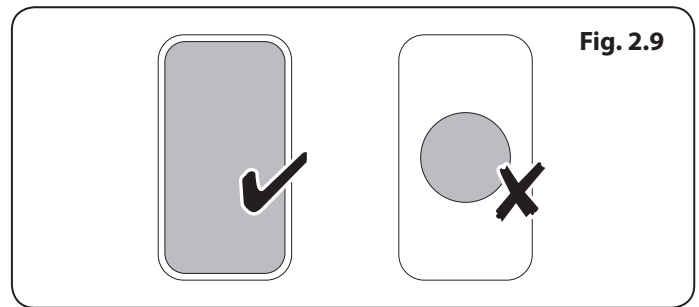

Fig. 2.9
**Note:** The griddle should comprise of an induction friendly, flat bottom, large enough to cover zones A and B of the hotplate heating area (**Fig. 2.9**).